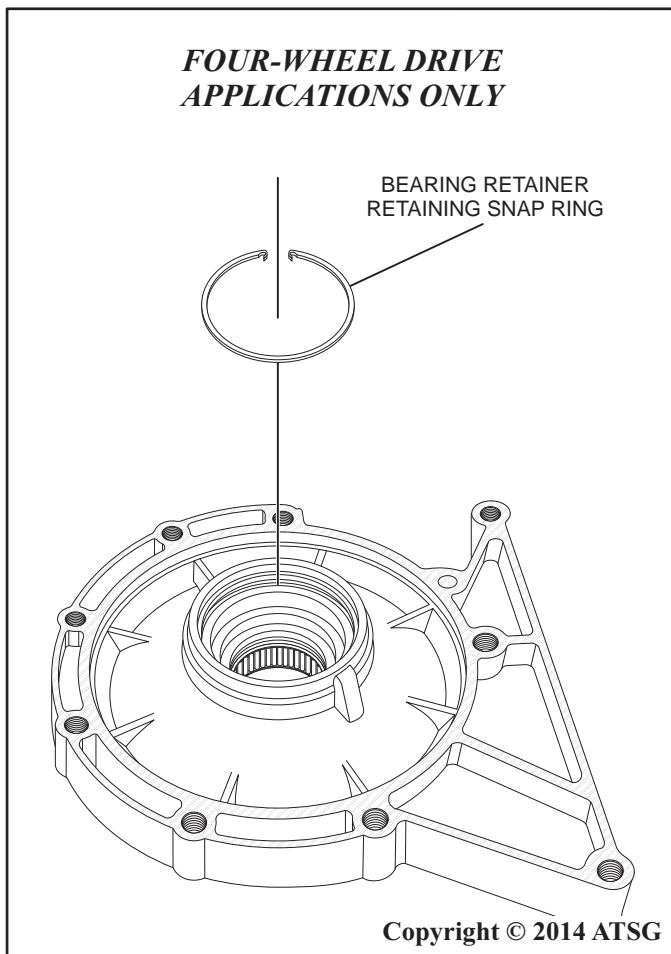

Figure 133
6. Using a pair of snap ring pliers, carefully install the bearing retainer retaining snap ring into the case as shown in Figure 133.